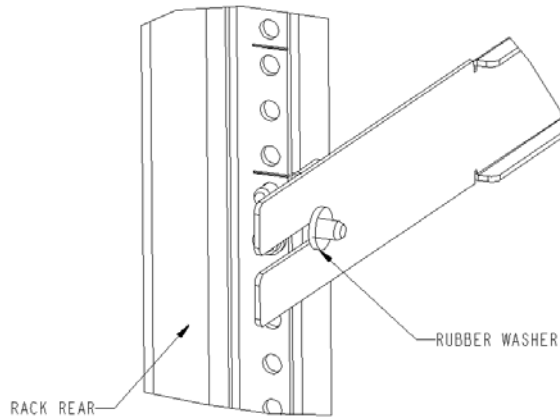

Figure 6. Installing the Rubber Washers
- a. As an aid in assembly, two rubber washers have been included to help keep the rear slotted portion of the outer rail flush against the rear rail-tray brackets. Install them as shown in Figure 6.